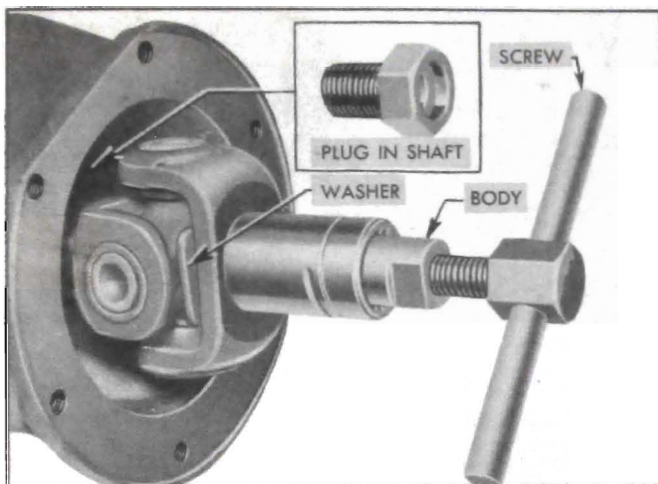

Figure 4-31—Removing Universal Joint with Puller J 682-A
16. Remove retaining bolt and washer then pull universal joint from main shaft, using Puller J682-A. To use the puller, install the pressure plug in transmission main shaft, insert puller body in universal joint rear yoke and install "C" washer in groove in puller body on front side of yoke, then turn screw handle clockwise. See figure 4-31.
5. Remove retaining bolt and washer, then pull universal joint from main shaft, using Puller J 682-A. To use puller, install the pressure plug in transmission main shaft, insert puller body in universal joint rear yoke and install "C" washer in groove in puller body on front side of yoke, then turn screw handle clockwise. See figure 4-31.